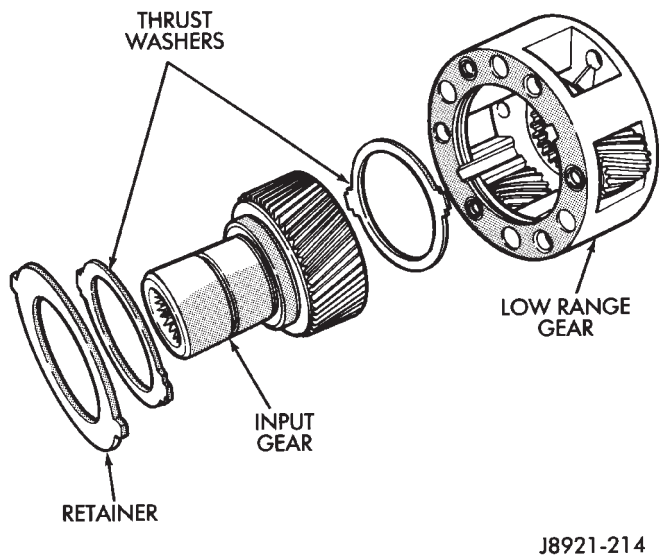

Fig. 43 Low Range Gear Disassembly
- (6) Remove input gear retainer, thrust washers and input gear from low range gear (Fig. 43).